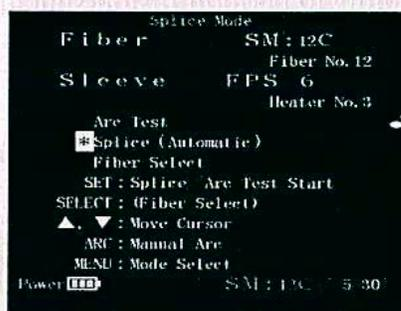

Figure 52. Active Heater Program
5. The active heater program is indicated on the SPLICE MODE MENU screen as shown in Figure 52.